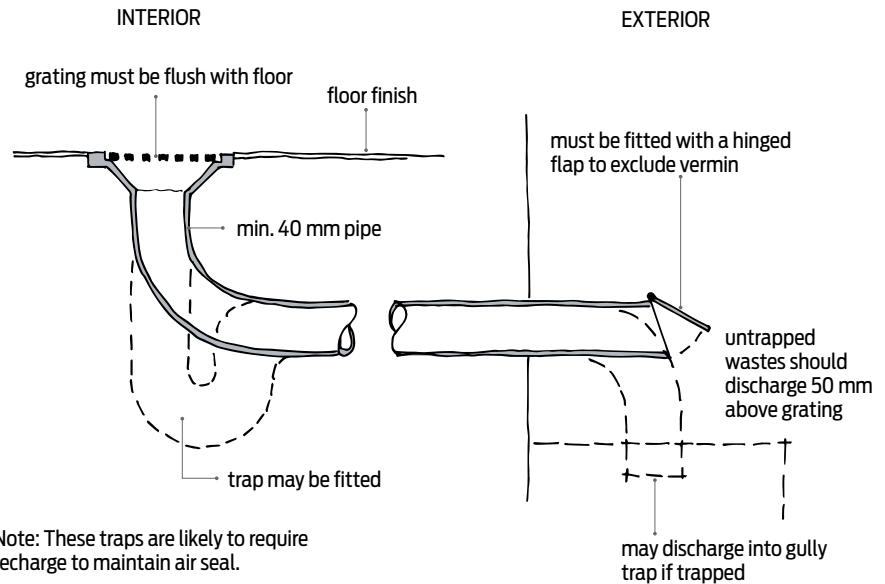

Figure 1. Floor drain.
- A dry floor waste has a flush floor grating with a pipe that discharges either directly to the outside or over a gully trap (Figure 1). A dry floor waste does not have a water trap and must not be connected directly to a foul drainage system.